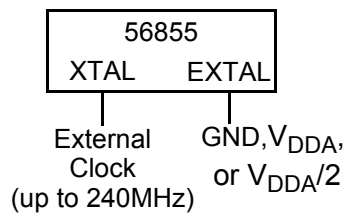

Figure 4-7 Connecting a High Speed External Clock Signal using XTAL
The recommended method of connecting an external clock is given in Figure 4-7. The external clock source is connected to XTAL and the EXTAL pin is held at ground, V_{DDA}, or V_{DDA}/2. The TOD_SEL bit in CGM must be set to 0.
1. See Figure 4-7 for details on using the recommended connection of an external clock driver.